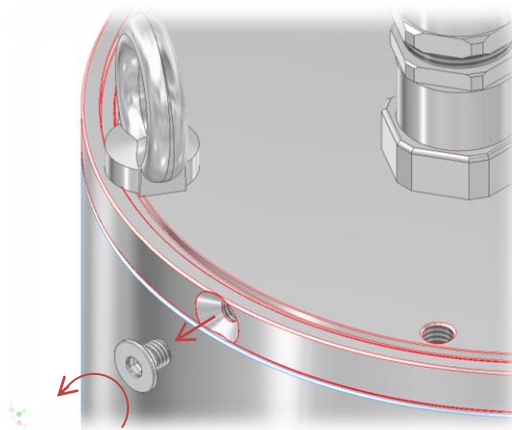

Figure 10-8 Disassembly of the countersunk head screw type T08-TNXCD
- The first step is to loosen the stainless steel countersunk head screw with hexagon socket (DIN 7991) at the flange component (q.v. figure 10-8)